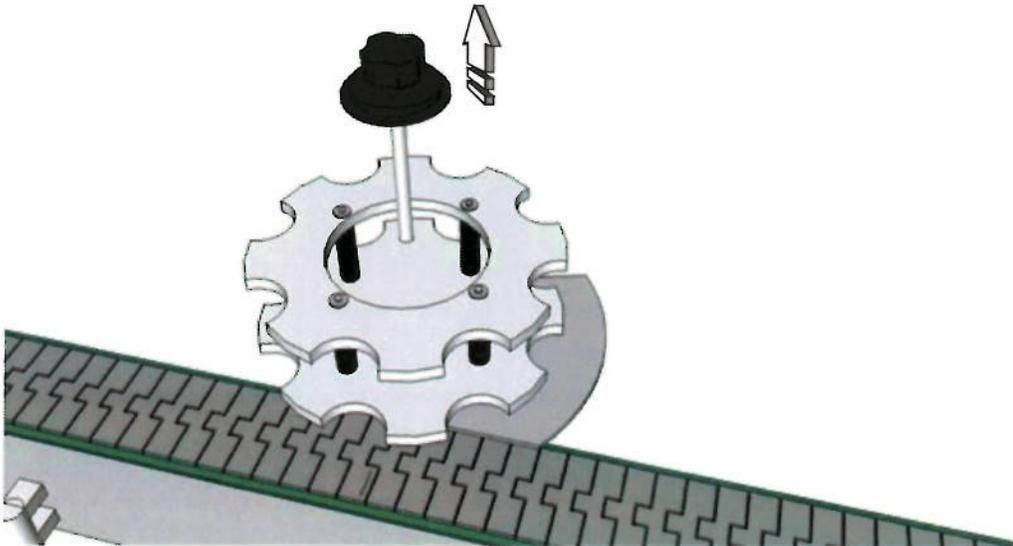

fig.7
• Remove the lock knob and lift it upwards (fig.7).